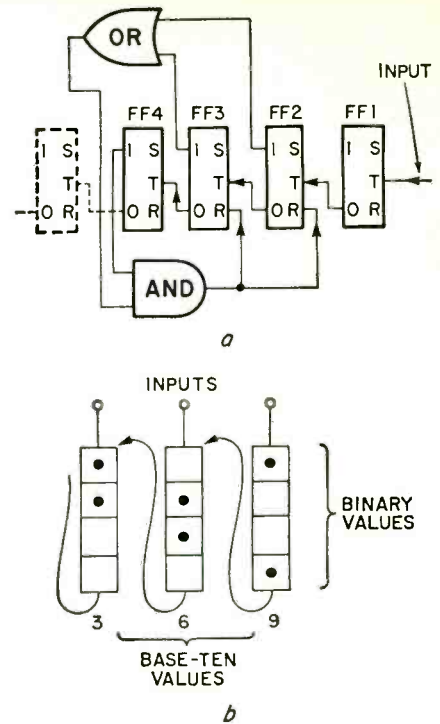

Fig. 10-a—Decade counter triggers at 10 count. b—Three decades set on 369.
The use of AND and OR gates with a counter is shown in Fig. 10-a. This combination forms a *decade counter* that will count only up to 9 and will trigger to 0 at the count of 10. Also, at the count of 10 the next stage is triggered to its logic 1 state. Decade counters are useful in data processing and each counter accumulates counts in base-10 fashion but still operates in basic binary mode. At the count of 9 the stages hold 1001
In Fig. 10-b three decade counters are shown, holding the number 369. Note the first counter (at the right) holds binary 1001 which represents 9. The next counter holds binary 0110 (6) and the left counter contains 0011 (3). If another pulse were entered in the right-most counter, it would trip to 0 and send another pulse to the center counter, changing the latter to 7. Now the count would be 370 and the system would have added an additional 1 which was entered to the existing number. **R-E**